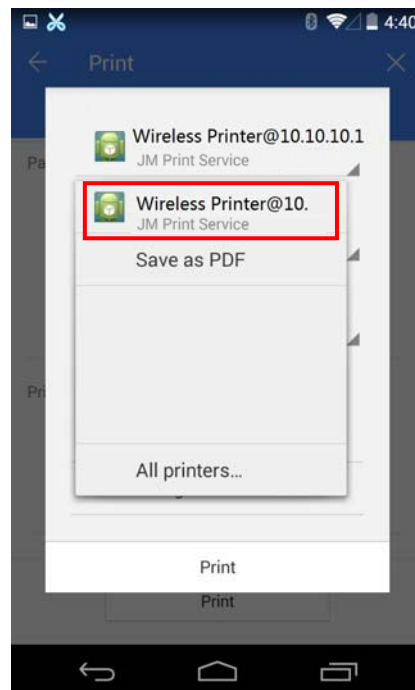

Figure 30
4.6 Select “Wireless Printer@10.10.10.1”, as shown in Figure 30.